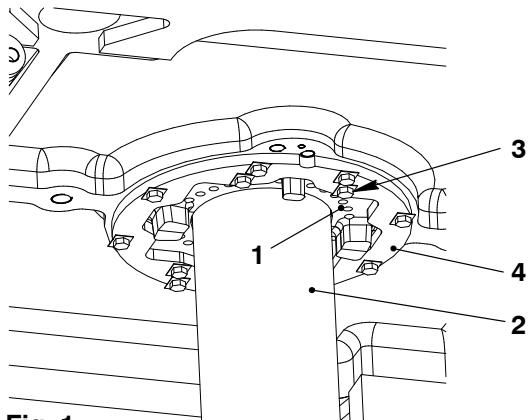

Fig. 1
- 3) Remove the four inner bolts 3 from the support 4 (see Fig. 1).
- 4) Remove the piston and the piston rod gland (1) (see 3403-1 Removal of the Piston, paragraph 3).
- 5) Make sure that the piston rod gland 1 is in the correct position on the two hinged covers (5).